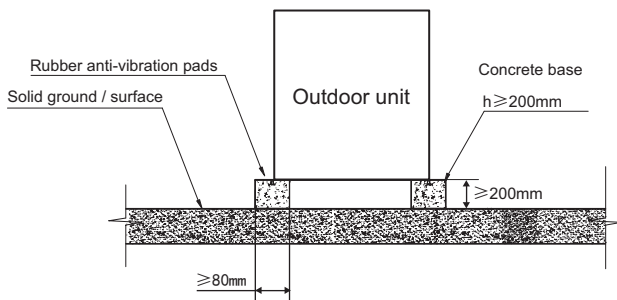

Fig. 6-6 Front view of base structure
- A typical concrete base design is shown in Fig. 6-6. A typical concrete specification is 1 part cement, 2 parts sand and 4 parts crushed stone with steel reinforcing bar. The edges of the base should be chamfered.